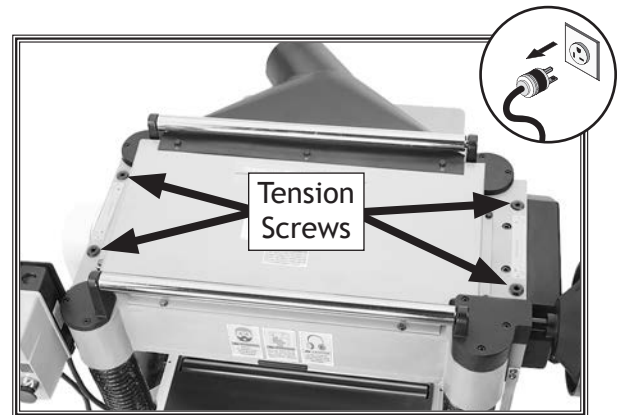

Figure 47. Example of roller spring tension adjustment screws.
2. Rotate tension screws (see **Figure 47**) clockwise to increase tension or counterclockwise to decrease tension.